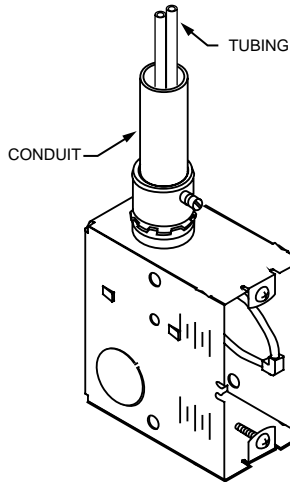

**Fig. 36. One-, Two-, or Three-Pipe Plastic or Copper Cable Assembly or 1/2 in. EMT Conduit with 1/2 in. TW Setscrew Connector.**
- One of the following (Fig. 36):